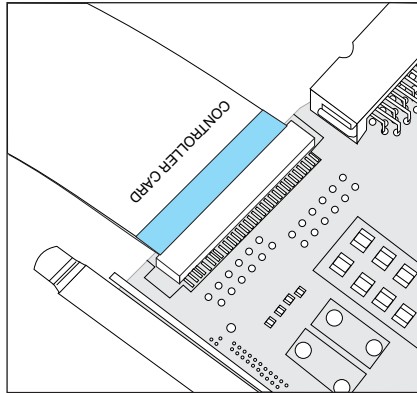
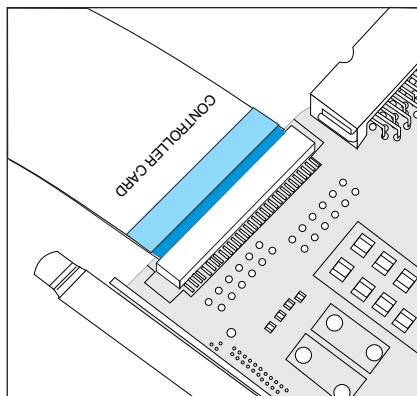

Figure 96. Service Controller card cable installed properly
Figure 97. Service Controller card cable not properly seated
- b. Before you reconnect the ribbon cable, ensure that its contacts are downward. *Carefully* install the cable to the rear of the service controller, being sure to install the cable straight in with no rocking or twisting during installation. Be sure to verify that the dark blue line on each cable connector end is not visible. This ensures that the cable is fully seated. See Figure 96 on page 354 and Figure 97 on page 354.